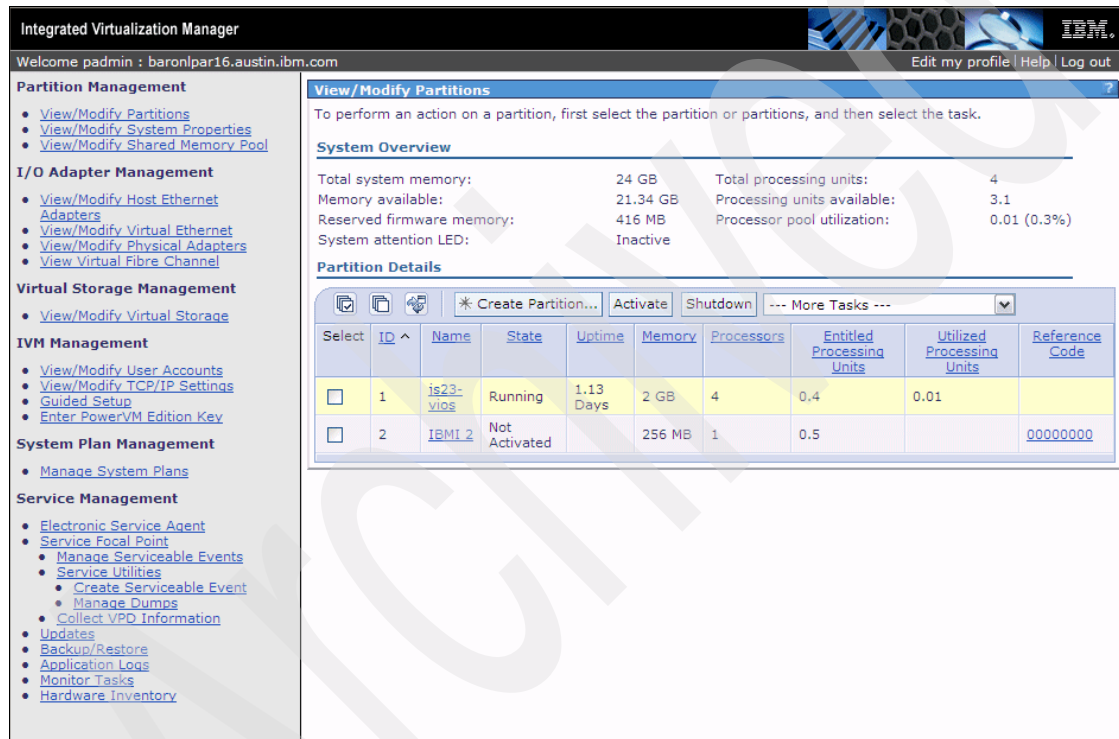

Figure 5-1 Start Active Memory Sharing configuration with View/Modify Virtual Storage
1. To create a common paging storage pool, start in the navigation area of the IVM GUI and click **View/Modify Virtual Storage** as shown in Figure 5-1.